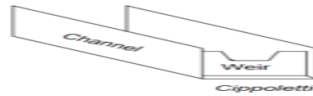

Fig 4: Types of notches in a channel
5.1 Determine the coefficient of discharge for Trapezoidal notch different operating conditions like partial opened, half opened and full opened of the pipe flow for different cross-sectional notches in fig.4
5.2 Conduct experiments with different values of (head of fluid) and record corresponding various discharges in fig.4